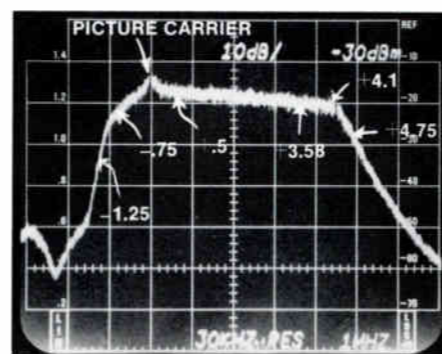

Figure 4. Sideband Response Using Noise (1 MHz/DIV).
3. Using the 300 Hz filter, tune in the visual and aural carriers of the transmitter. The results will look similar to Figure 4 and 5.
4. Care should be taken to use the internal attenuator on the 7L12, so that the analyzer is not in an overload condition. Generally, a display similar to Figure 4 or 5 is correct, whereas a raised baseline 10 MHz or more away from the picture carrier is almost a sure indication of an overload condition. (See Hints and Precautions.)
6. Critical points on the filter curve of  $-1.25$  MHz,  $-0.75$  MHz,  $+0.5$  MHz,  $+3.58$  MHz,  $+4.1$  MHz and  $+4.75$  MHz can be easily identified and measured in the 1 MHz/div, 10 dB/div mode on the spectrum analyzer as indicated in Figure 4.